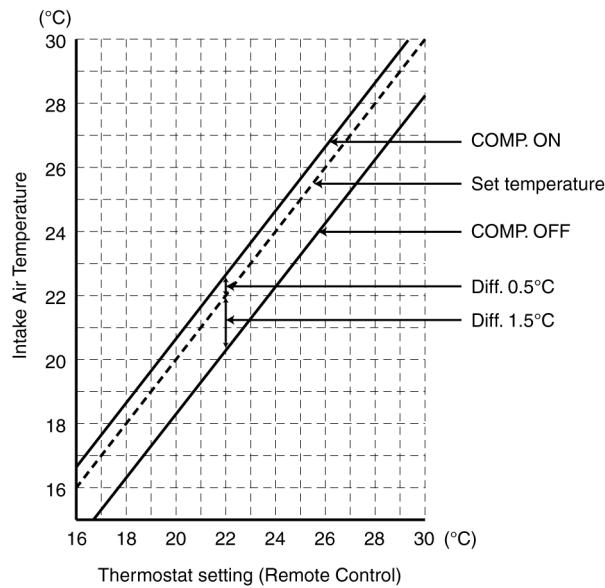

Fig. 8
- Then push up the evaporator and remove cross flow fan by pulling both cross flow fan and fan motor. (Fig. 8)